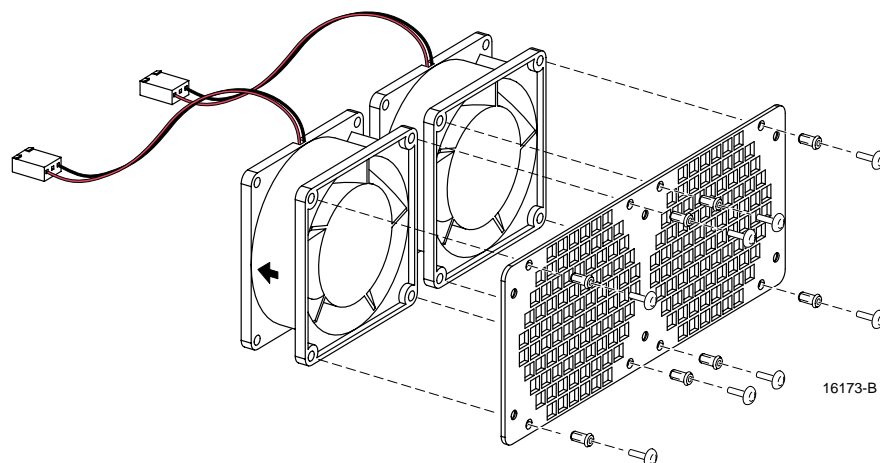

Figure 30. Removing Fan From Grill
8. Remove the four plastic rivets that secure the faulty fan to the grill by pushing outward on rivet center post until the rivet can be withdrawn from the grill as shown in Figure 30.